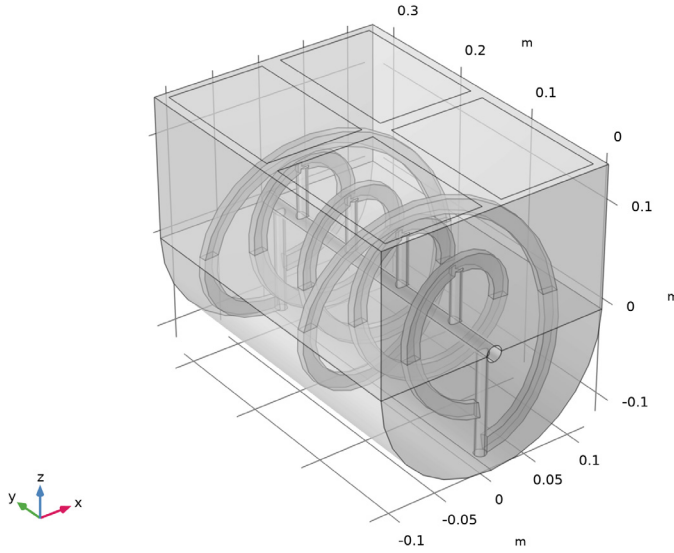

Figure 1: Model geometry.
The geometry consists of an U-shaped trough with a casing radius of 12 cm and a length of 33.2 cm. A central shaft of radius 0.8 cm runs through the length of the trough. Two helical ribbons are attached to the shaft along with support rods to hold the ribbons in place. The outer helix has a major radius of 10.25 cm is left handed, while the inner helix is left handed and has a major radius of 6.25 cm. The two blades have a pitch of 15 cm and 7.5 cm respectively. The top of the trough has four rectangular slits for releasing grains into the trough. These inlets can be closed during the mixing of the grains. The geometry is presented in Figure 1.
- 6 Click the  **Zoom Extents** button in the **Graphics** toolbar. The geometry should look like Figure 1.